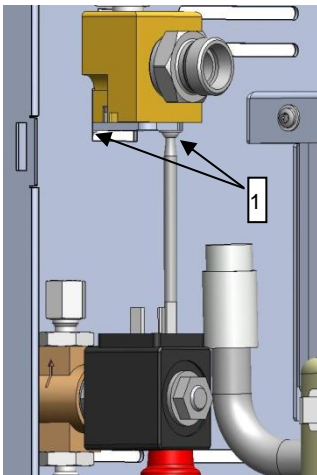

Fig. 1: Loosen Torx screws
- Loosen the Torx screws (1) of the mounting plate for the sound transducer (→ Fig. 1).